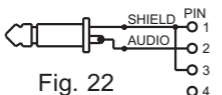

Fig. 22
5. Line-input (impedance 8K ATT 10dB), Fig. 22: